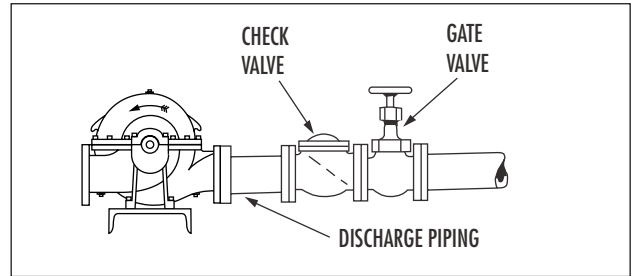

Figure 5. Gate valve and check valve.
**DISCHARGE VALVES.** The discharge piping should include a check valve and a gate valve. The check valve should be located between the gate valve and the pump. If an increaser is used in the discharge piping, the increaser should be installed between the pump nozzle and the check valve. The check valve protects against a reverse flow of the liquid if the driver fails. Refer to Fig. 5.